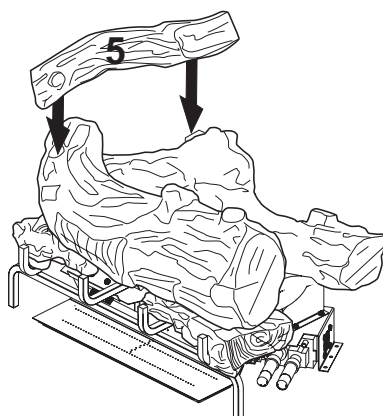

Figure 27 - Installing Log #5
5. Place top left log (#5) onto rear log (#1) and front log (#3). Match round peg on bottom of top left log (#5) with round hole in front log (#3) and square hole in log #5 with square peg on log #1 (see Figure 27).